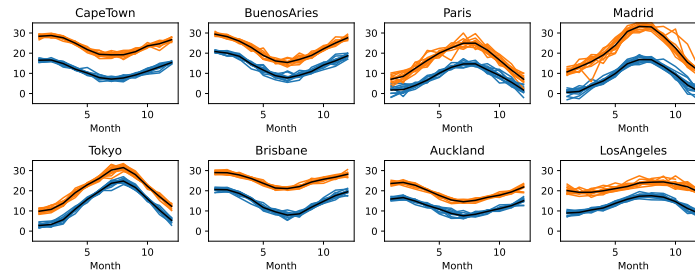

Fig. 8.6: Annual temperature curves for the eight cities in dataset **TEMP_WORLD.csv** by month; the black line shows the average maximum or minimum temperature
Overlaying the different years, shows that the monthly averages are in general consistent over the years. (see Fig. 8.6).
(1) This observation allows us to reduce the dataset to average monthly temperatures. The average temperature is overlaid in black on the graphs in Fig. 8.6.